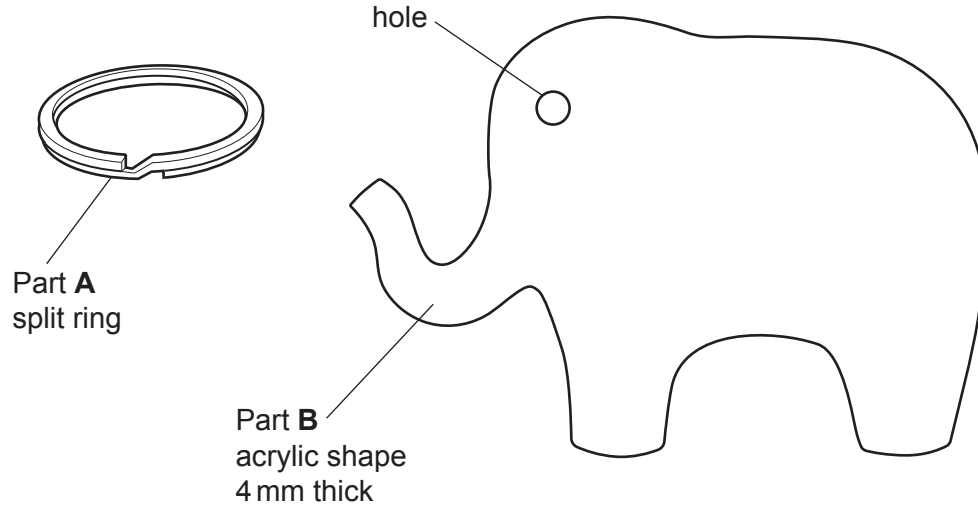

Fig. 1.1
- 1 Fig. 1.1 gives details of the two parts of a key fob which are to be made in a school workshop.